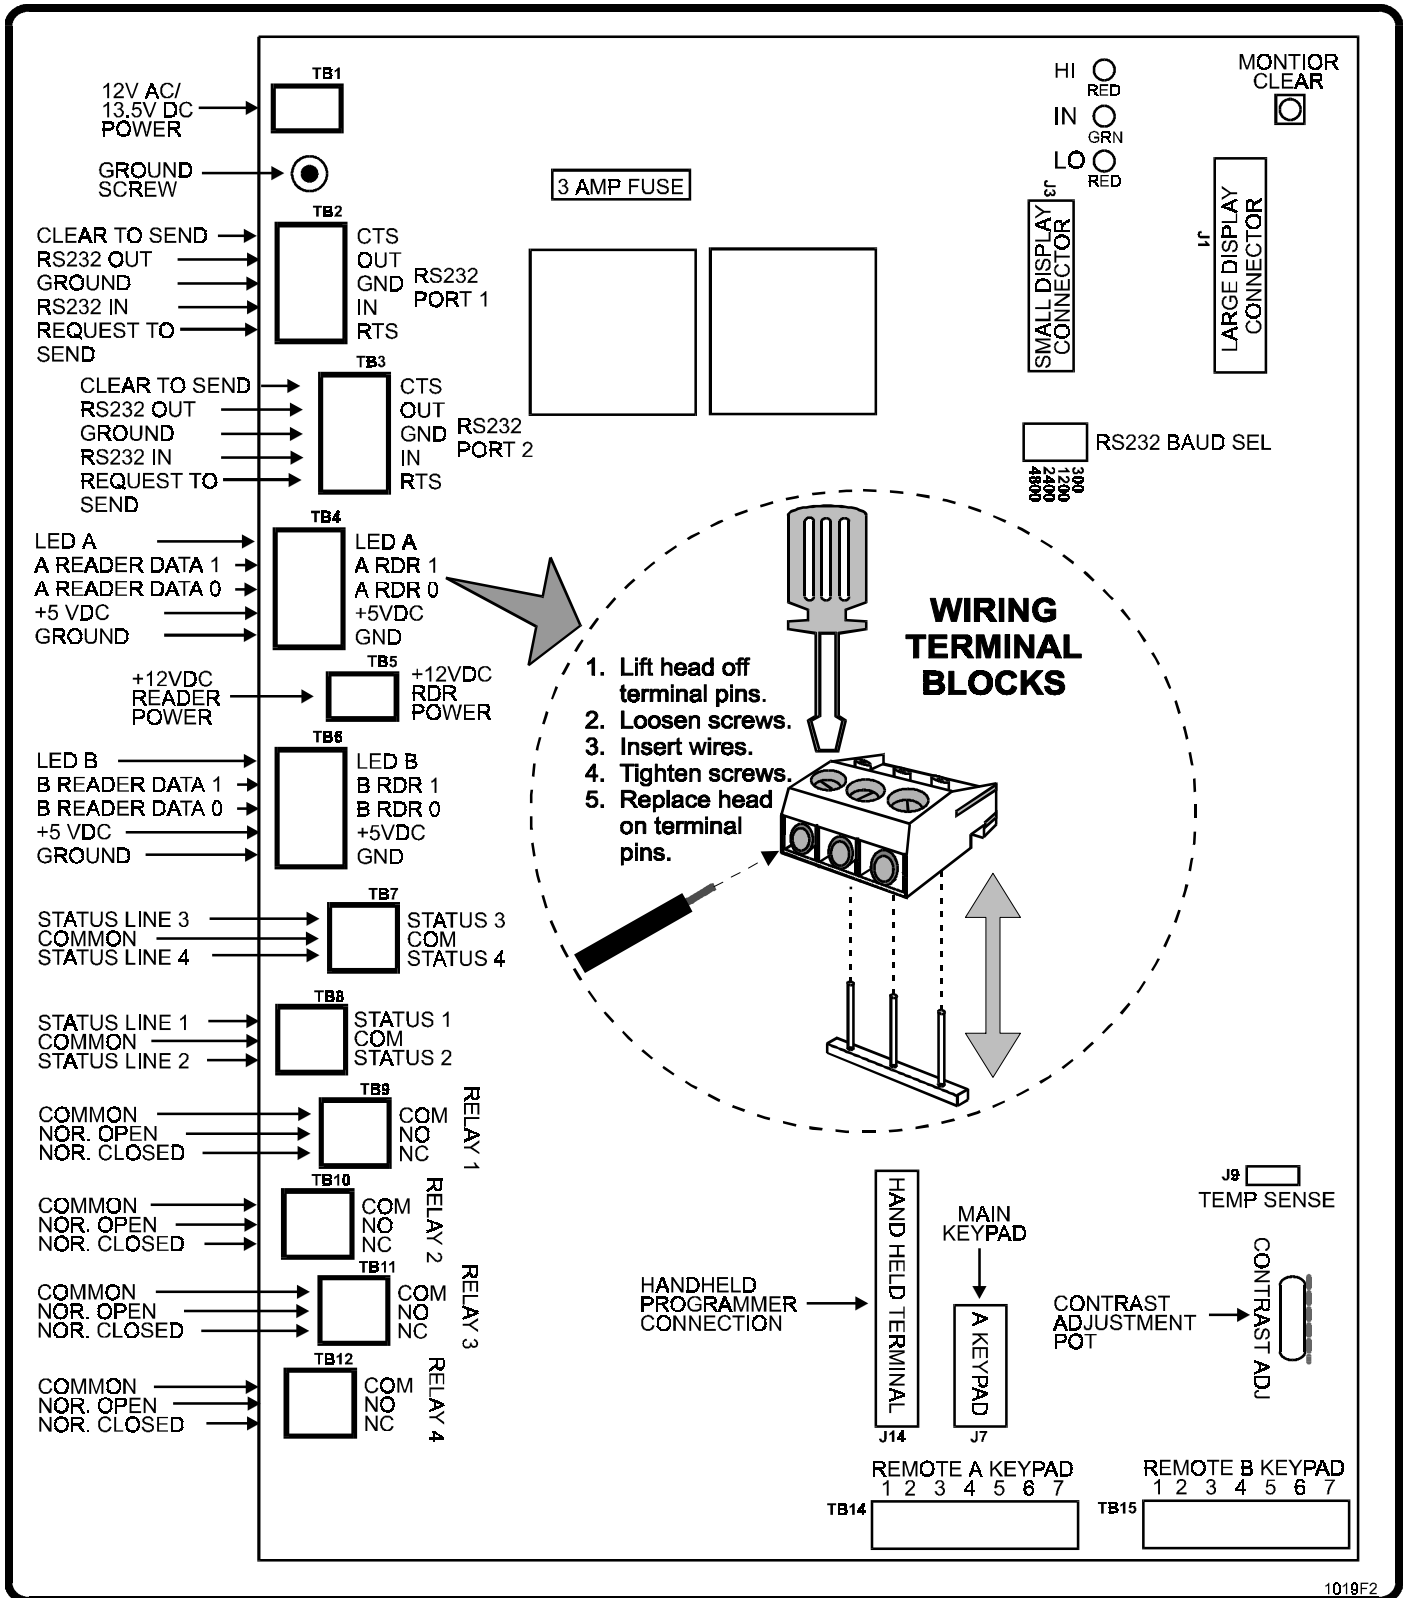

Figure 3. Infinity Circuit Board Connections (1100023).
- 1. GROUND THE UNIT.** The Infinity contains parts which may be damaged by static discharge. A proper earth ground connected to the upper left grounding screw shown in **Figures 3 and 4** will significantly reduce the chances of damage or improper operation. The shielding in the cables for all remote keypads or card readers should be connected to the earth ground at the controller end of the cable only. To be effective, the ground connection must be made by running 12 awg copper wire to a good ground point (e.g., an electrical panel, a metallic cold water pipe that runs into the earth, or a grounding rod at least 10 feet in length that is driven into the earth) within 12 feet of the unit. Even if you have a good earth ground, you should try to discharge any static before handling the circuit boards.
Refer to Figure 3 or 4 and connect the wires from Infinity-controlled devices as follows:
AC POWER: Connect one end of a two conductor stranded wire cable to TB 1 on the main processor board (see Figure 3 or 4) and the other end to the transformer provided with the system. Then plug the transformer into a 120 VAC outlet. Follow the same steps for optional CCTV.
DC POWER: Connect one end of a two conductor stranded wire cable to TB 13 (TB1 on E and F rev. boards) on the main processor board (see Figure 3 or 4) and the other end to the power supply. Then plug the power supply into a 120 VAC outlet. Follow the same steps for optional CCTV.
1. Press the button next to the LEDs marked "monitor clear" on the upper-right corner of the board (Figure 3 or 4).
- Use shielded cable and connect the shield to the ground screw shown in Figures 3 and 4.
- If the door is located more than 25 feet from the Infinity, use shielded cable and connect the shield to the ground screw shown in Figure 3 or 4.
Change the baud rate by moving the jumper on the RS232 BAUD SEL shorting block (Figure 3 or 4).